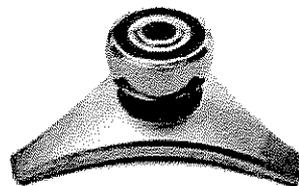

Fig. 17
**Note:** Properly check the position of the appropriate head adaptor before final impaction into *Metasul LDH* large diameter head (Fig. 17).